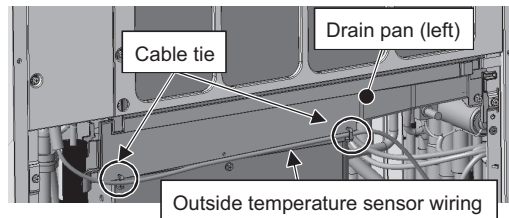

Figure 10
- (4) Hold the external temperature sensor wiring to the left drain pan with two cable ties. (See Figure 10.)